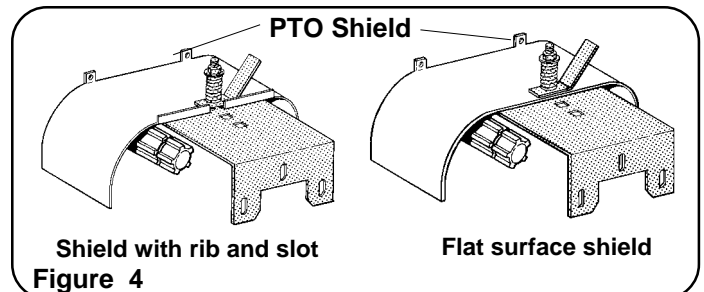

Figure 4
3. When the pump clip is firmly located on the PTO shield, then tighten down the bolts on the pump housing. **NOTE: See Figure 4 — it will be necessary to drill a 5/16" center hole in all flat surface shields to properly secure the clip to the PTO shield.**
2. Lineup pump shaft with straight edge as shown in Figure 4 to assure they are aligned. Shim pump if necessary to match shaft height of engine or motor. Shaft ends should not touch.